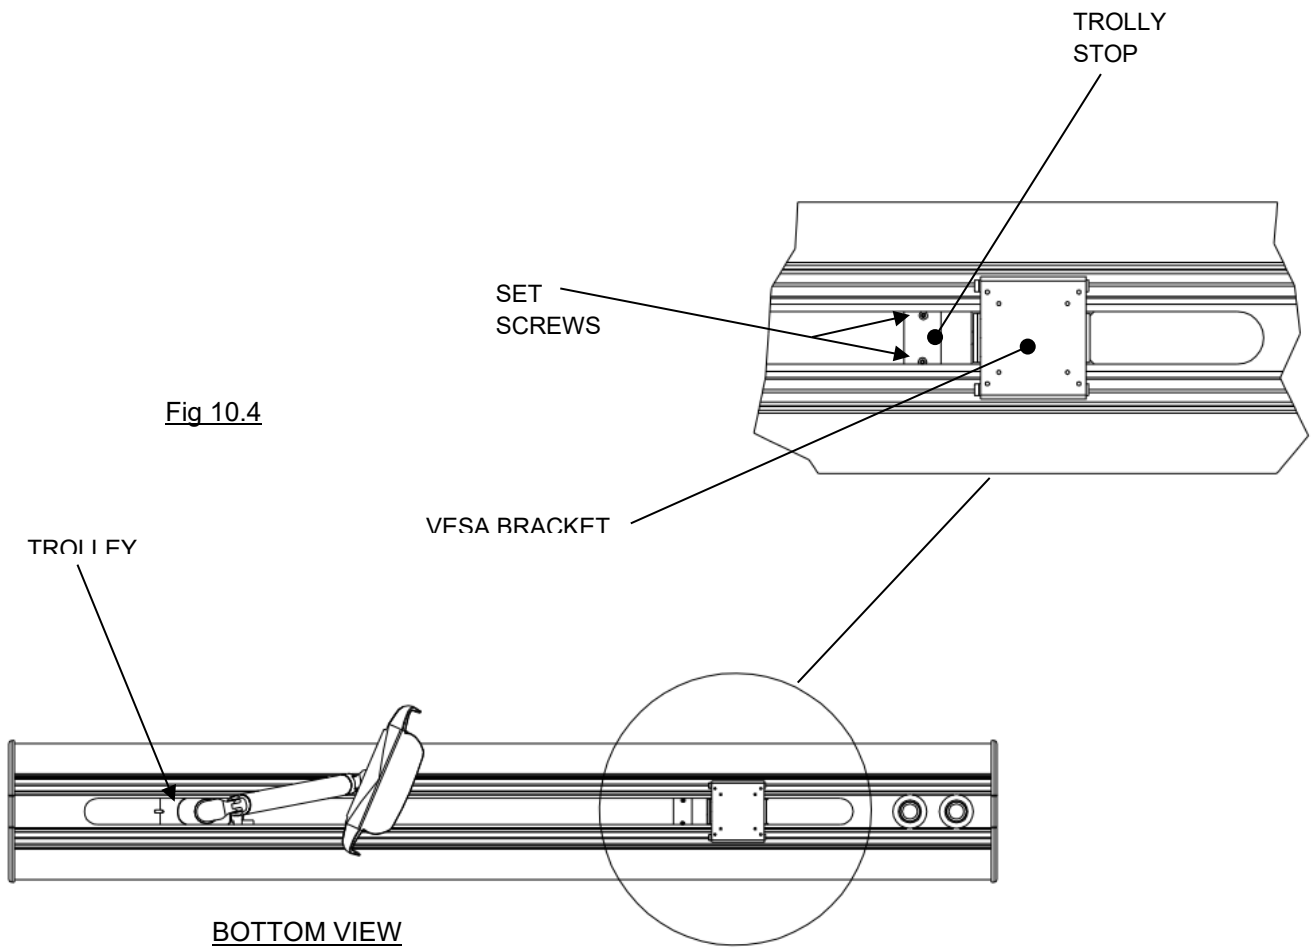

Fig 10.4
2. Screw the MONITOR BRACKET on the back of your MONITOR (Fig 10.4). Please note the hole pattern on the MONITOR BRACKET uses the 100mm x 100mm VESA pattern. Please review your monitor documentation before installing the bracket in place.